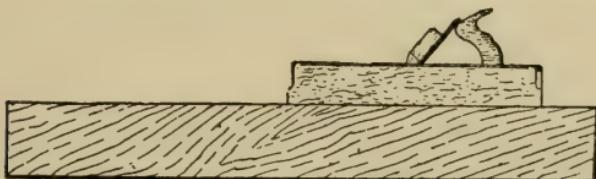

FIG. 90
**Using the Plane.**—When using the plane, always keep the plane well oiled in front of the iron; be sure and work with the grain as shown in Fig. 89, whenever possible. A far thicker shaving can be taken off smoothly in this way than if worked as shown in Fig. 90, which is working against the grain and requires more careful work with a more finely set plane. Do not use the plane at an uncomfortable height. When the board to be planed is in position, and the worker takes hold of the plane ready to begin work, a line drawn through his elbow and wrist should be rather lower than higher at the wrist, though if the forearm is